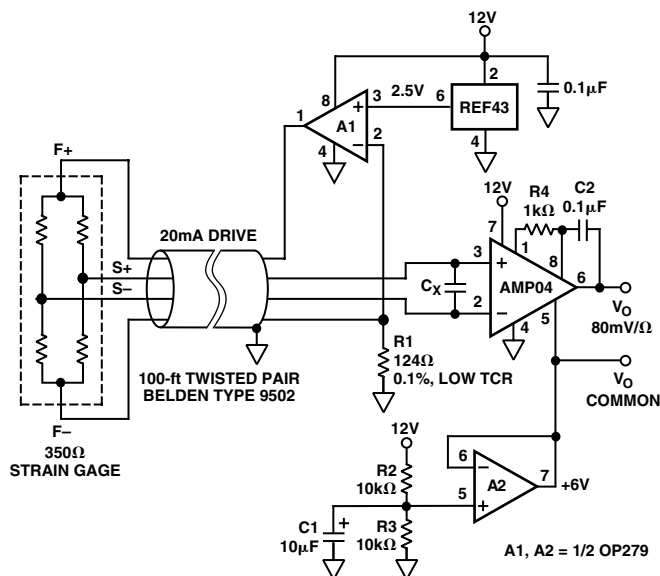

Figure 11. A Single-Supply, Remote Strain Gage Signal Conditioner
The circuit in Figure 11 illustrates a way by which the OP179/OP279 can be used in a 12 V single supply, 350 Ω strain gage signal conditioning circuit. In this circuit, the OP179/OP279 serves two functions: (1) By servoing the output of the REF43's 2.5 V output across R1, it provides a 20 mA drive to the 350 Ω strain gage. In this way, small changes in the strain gage produce large differential output voltages across the AMP04's inputs. (2) To maximize the circuit's dynamic range, the other half of the OP179/OP279 is configured as a supply-splitter connected to the AMP04's REF terminal. Thus, tension or compression in the application can be measured by the circuit.